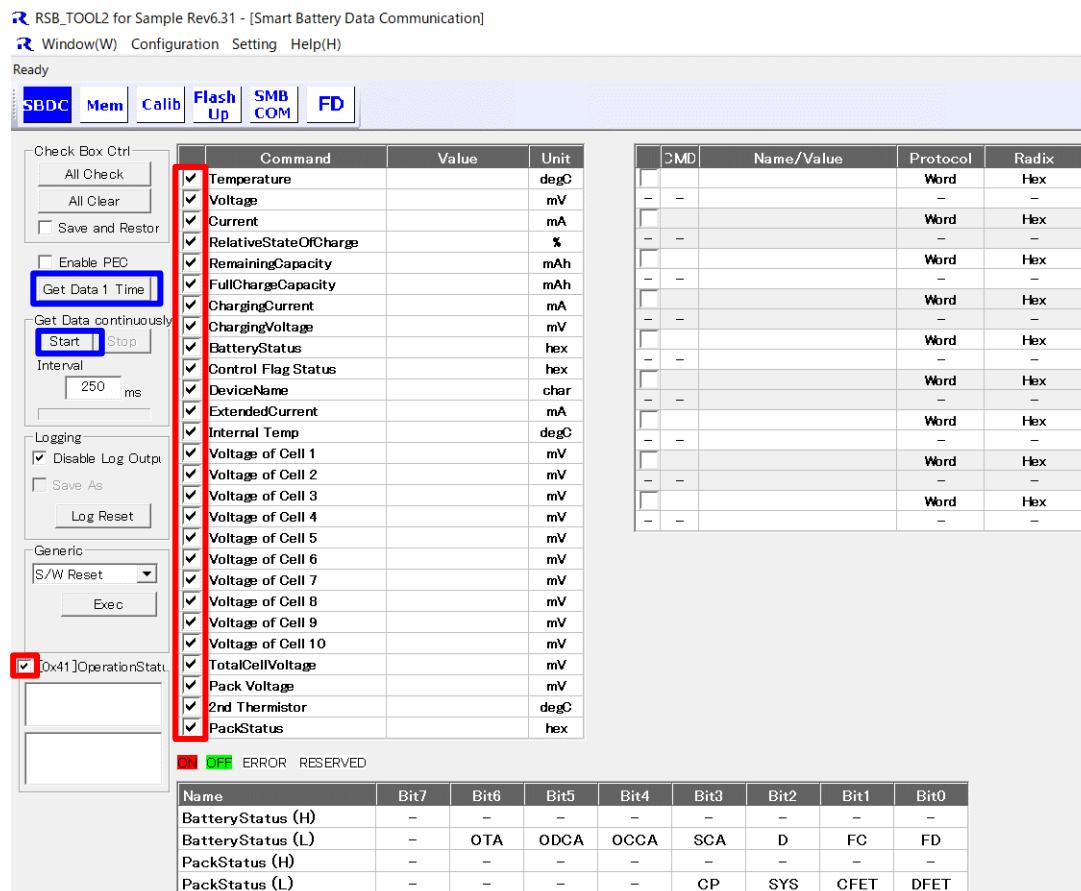

Figure 10 SBDC Screen Example
3. Choose the items that need to monitor by enabling the check box (Highlighted by **RED** frame in Figure 10)
4. Click [Start] button (for continuous data logging) or [Get Data 1 time] button (for single measurement) to update the data on the RSB_TOOL2. (Highlighted by **BLUE** frame in Figure 10)